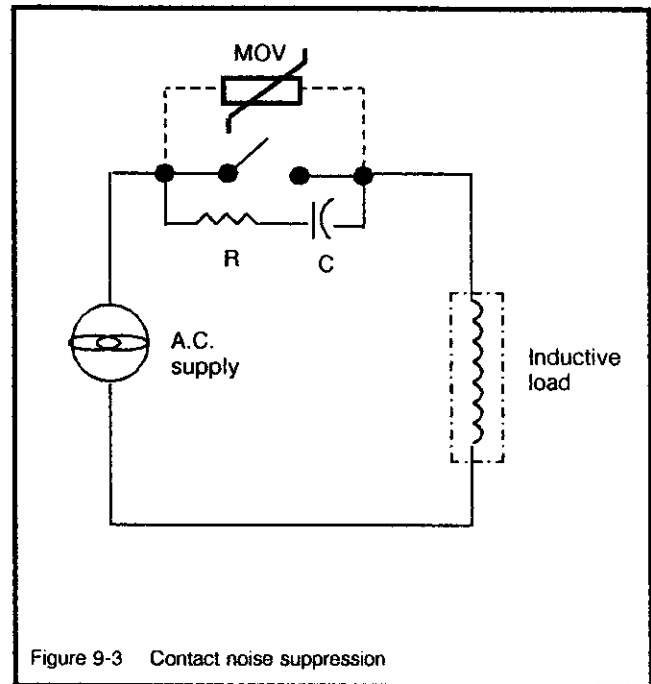

Figure 9-3 Contact noise suppression
One way to eliminate this arc is to connect a resistor and capacitor across the contacts (Figure 9-3). A combination of 47 ohms and 0.022 microfarads (1000 Vdc) is recommended for circuits up to 3 amps and 300 Vac. (NOTE 1) And for voltage above 2000 Vac, an MOV across the contact may be added for extra protection.
**NOTE 1:** For very small relay loads, a larger value of C (Figure 9-3) may keep the external relay energized.